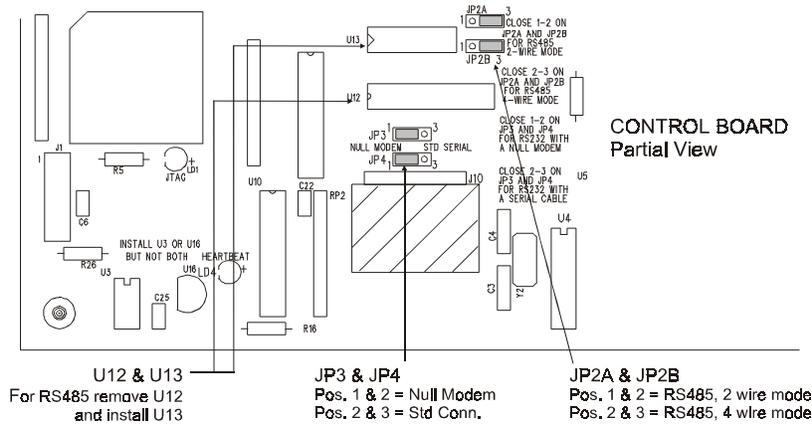

Figure 24 - RS232 / RS485 JUMPERS AND ADJUSTMENTS
- (1) **RS232** To use RS232 you will need to make or buy a null modem cable which has a 9-pin female D subminiature connector on each end to connect to the male connectors on the bottom of your WebHandler and your computer. For RS232 connections, use only pins 2, 3, and 5. Refer to the following connection diagram. **NOTE:** TO change to a standard connection, move the jumpers on the Control Board from JP3 and JP4 positions 1 and 2, to positions 2 and 3. See Fig. 24.